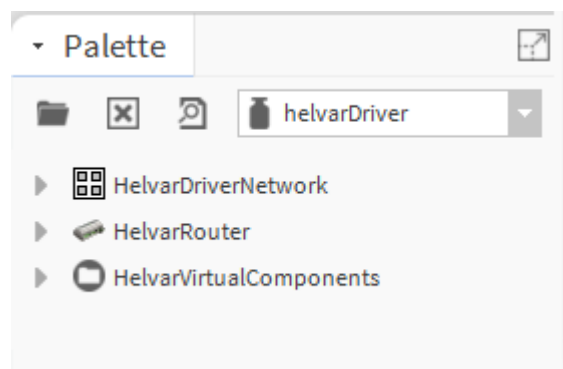

FIGURE 1 - HELVARDRIVER.JAR - PALETTE
- Correct installation of the module will bring up a palette as in Figure 1.